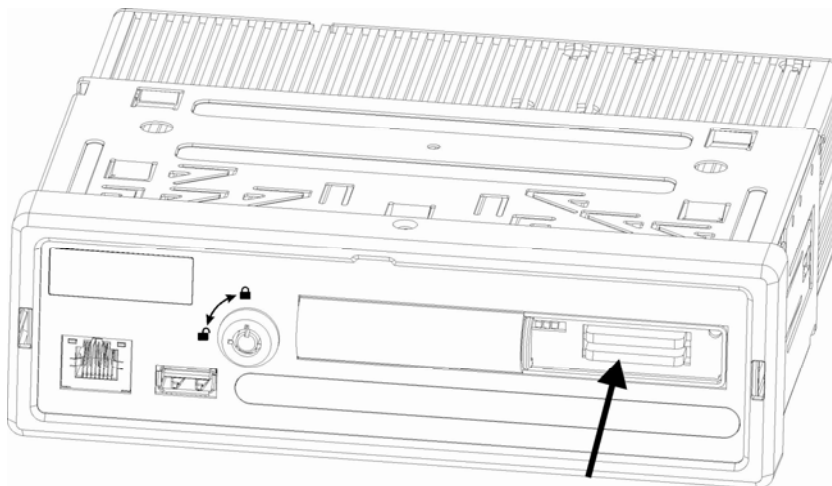

Figure 2-13
2) Press down the SD card case and push the handspike down. Use the screwdriver to push the SD card slot in Figure 2-13.